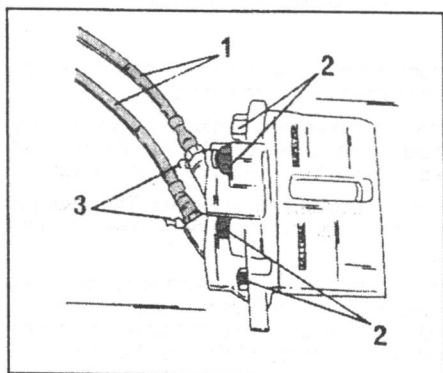

Fig. 8.5. — View of the fitted caliper. The bolts (2) must not be slackened or removed, as they keep the caliper halves together.
Fig. 8.5. shows the fitted caliper. The illustration shows the four bolts (2) which hold the caliper together. *These are the bolts which must not be slackened or removed.*
- Unscrew the two brake hoses (1) from the the caliper and remove the two bleeder screws (3).